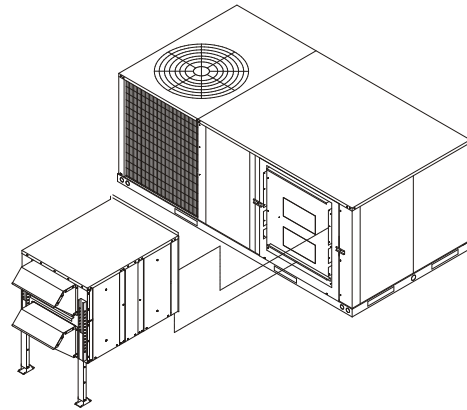

Figure 7
4. Set ERS on platform support rail slide ERS up against adaptor panel. The side flanges of adaptor panel should fit inside the posts of ERS. Secure ERS to adaptor panel using the provided 10-16 x $\frac{1}{2}$ " screws. **See Figure 7.**
5. Tuck the top flange of the ERS under the rooftop unit top panel and secure with the existing rooftop unit screws. **See Figure 7.**